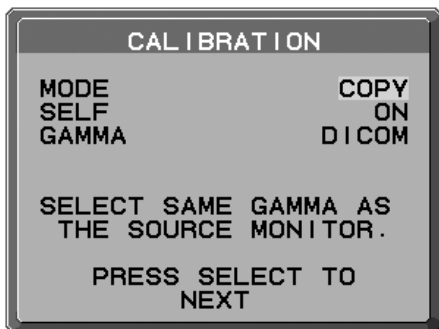

Figure 9
- Select COPY in the Mode selection in Display B (**Figure 9**).